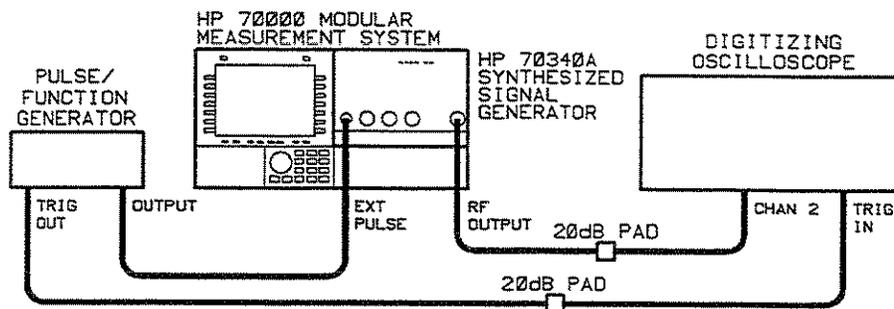

Figure 1-16. Pulse Width Test Setup
1. Connect the equipment as shown in Figure 1-16.